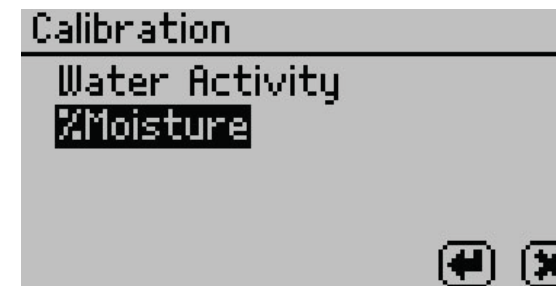

Figure 14 List of calibration types
3. Select %Moisture from the list of calibration types (Figure 14).